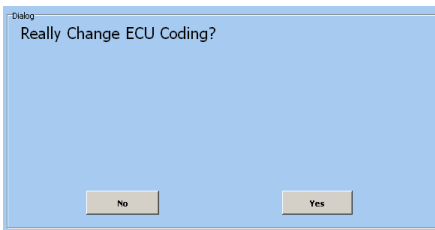

Figure 6.25
First, we have to select the desired group using the button (1) (Figure 6.22). After pressing the Start button (2) you will be asked to confirm the changes (Figure 6.25) and if you do so a result of the change is displayed (6.26).